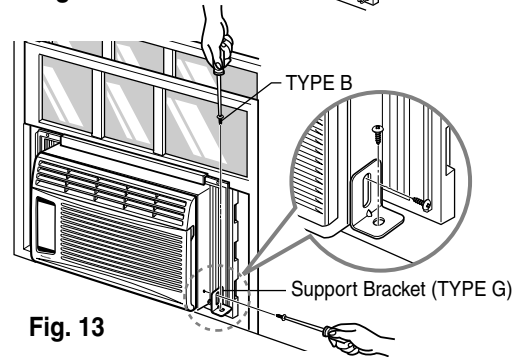

Fig. 13
b. Fasten the support bracket (TYPE G) using a removed screw. Attach the support bracket (TYPE G) in the inner window sill with a screw (TYPE B), as shown Fig. 13.